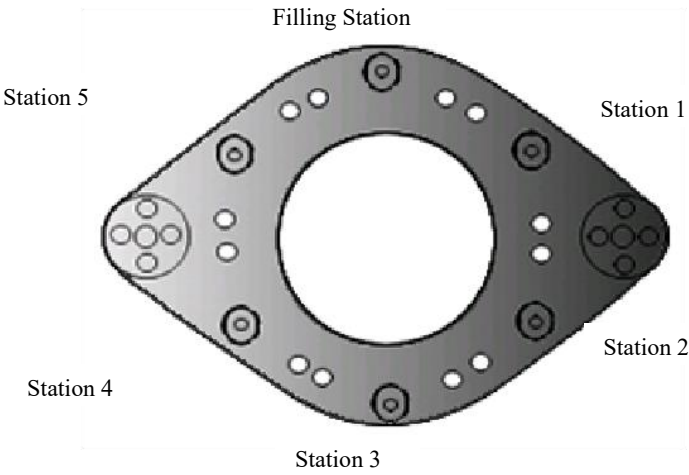

Fig. 19 Layout of Six Stations in Filling Unit
5.2.7 Adjustment of the height of filling rod retainer (refer to Fig. 19, 20, 21)